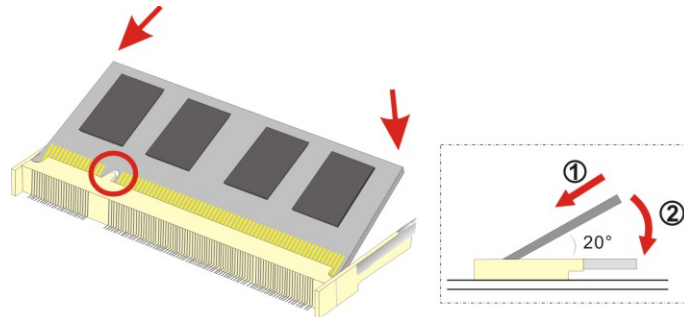

Figure 4-4: SO-DIMM Installation
To install an SO-DIMM, please follow the steps below and refer to **Figure 4-4**.
- Step 3:** Insert the SO-DIMM. Push the memory in at a 20° angle. (See **Figure 4-4**)
- Step 4:** Seat the SO-DIMM. Gently push downwards and the arms clip into place. (See **Figure 4-4**)